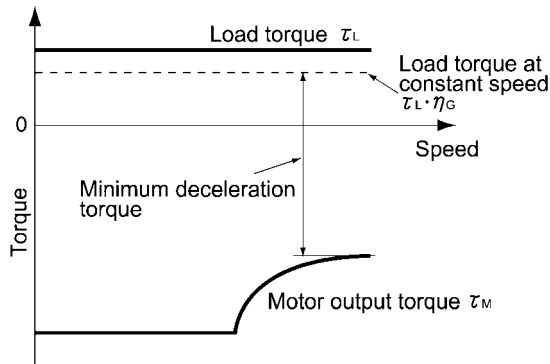

Figure 3.5 Example Study of Minimum Deceleration Torque (1)
- 2) Calculate the minimum deceleration torque (See Figures 3.5 and 3.6.)